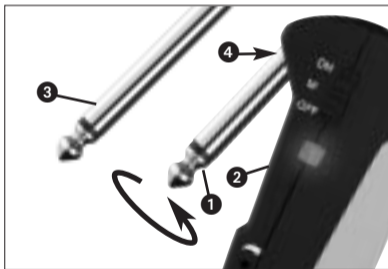

Fig. 4: Mounting the adapter plug.
4.3 Instruments with Recessed Output Jacks (refer to fig. 4)